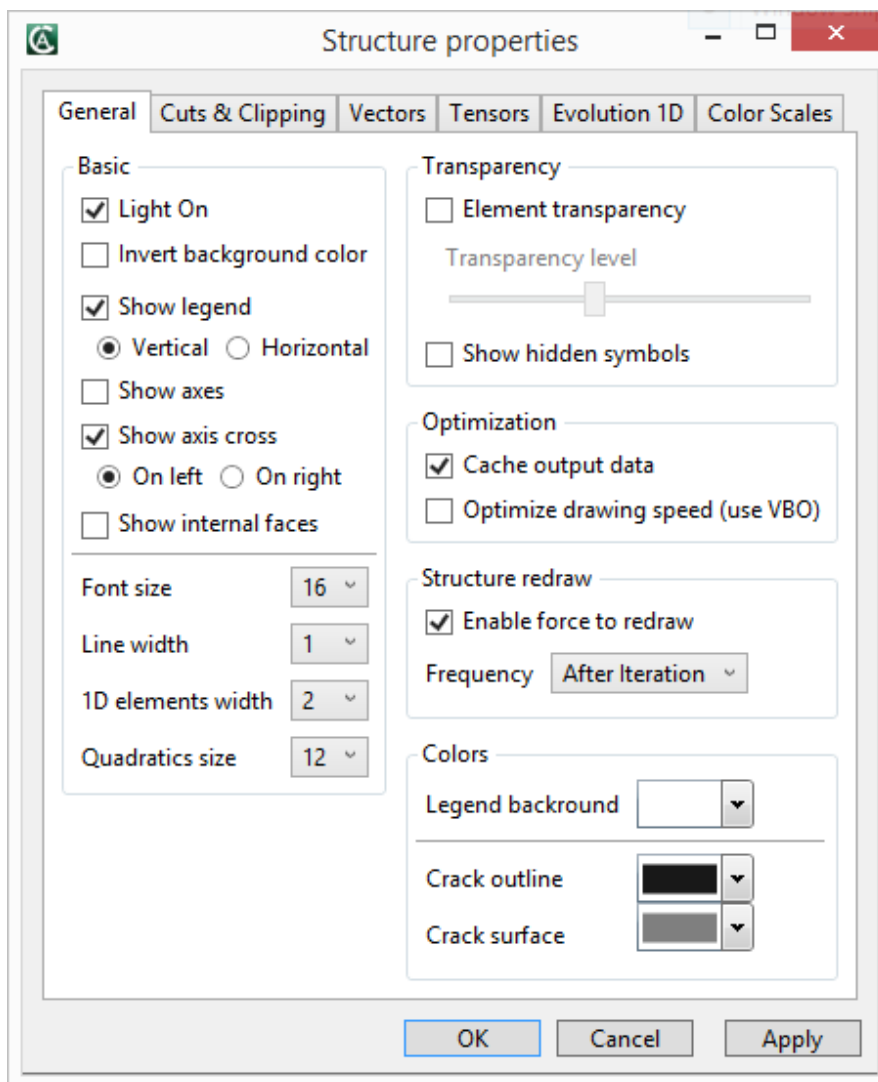

Fig. 3-25 Structure properties. General
The graphical window shows real-time results during calculations. This graphics contains the same possibilities as the final post-processing, but it should be understood that it may take significant resources of your computer, thus slowing down the analysis. It is possible to open several structural windows, with different views at the analyzed structure. Add new structure window by icon  and move it the same way as the diagram window. For details about moving see 3.5. The display parameters are set by using the View settings toolbox on the right hand side of the ATENA Studio window (0). This dialog contains several dialogs with different settings and parameters that control the visualization of results in the Structure window. An example is shown in Fig. 3-25 where the deformations in x3 (i.e. z direction) are shown as contour lines.
Structural appearance can be changed by using the icon  , which opens the dialog structure properties (see Fig. 3-25)
- general settings of the structure (see Fig. 3-25)